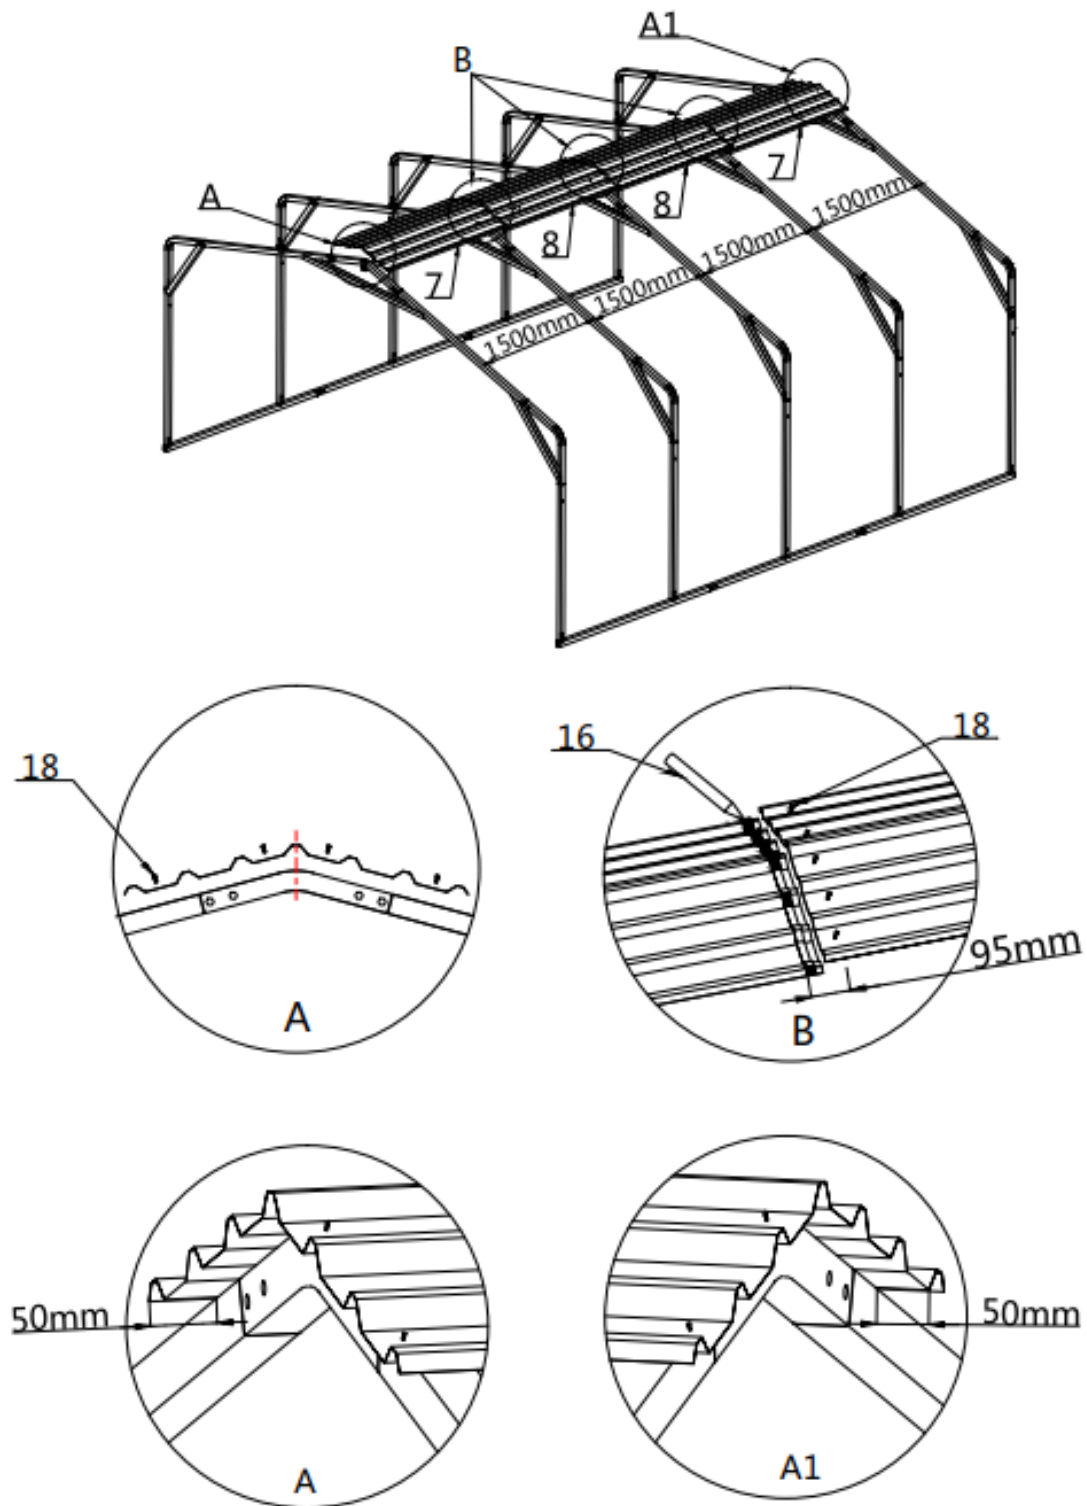

**Figure 6**
- Install top cross bar A (#5C) and top cross bar B (#5D). Use (#21) and (#17) Hexagonal bolt fixation. (refer to figure 6)